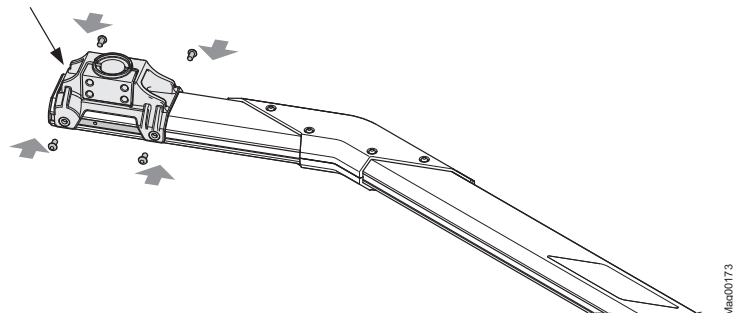

Fig. 29: Assembling flange
17. Attach the flange on the other side of the barrier boom. Observe position of the two slot nuts. The shorter protrusion of the flange must point towards the barrier boom end. → See also page 72, Fig. 29.